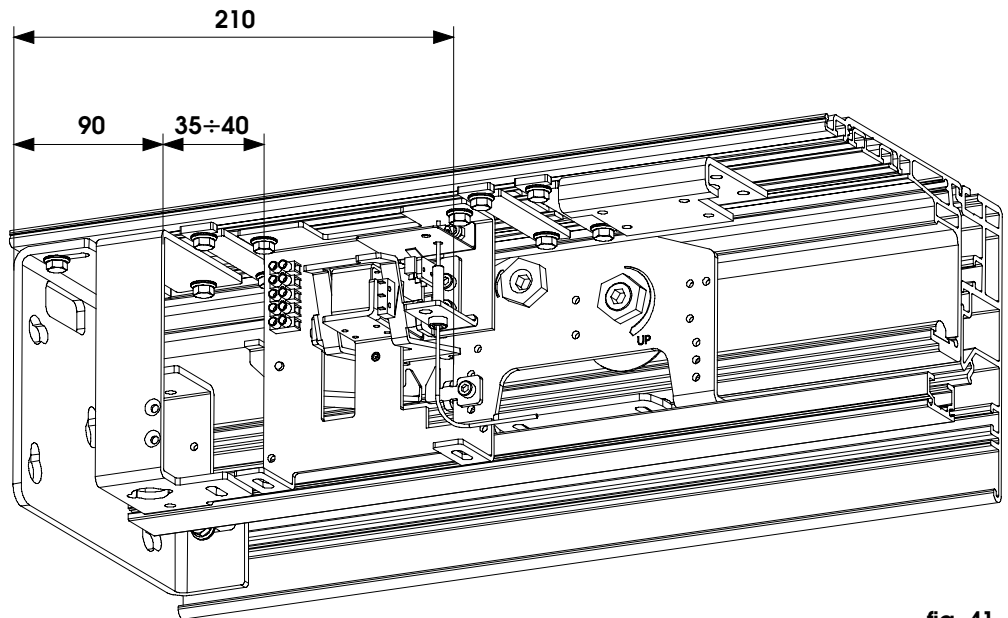

fig. 41
- The padlock for single-leaves is assembled on a section of the activation profile and is secured to the head profile by 2 brackets - for locating instructions, refer to fig. 40 (door without side brackets) and fig. 41 (door with side brackets).